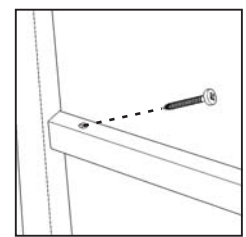

Figure 2
Attach Front Stretcher (G) to unit with Wood Screws. (See Figure 2)
Attach Side Stretcher (E) to Leg (B) and Side Stretcher (F) to Leg (C) with Wood Screws. (See Figure 2)